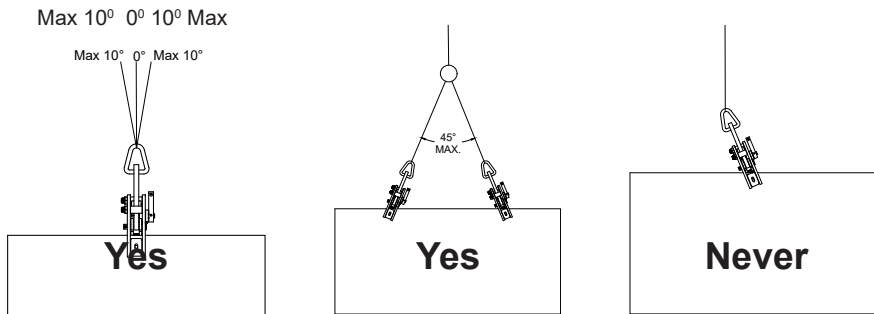

Figure 4: Never lift material from the side with a “VL” series clamp unless using a clamp with the Universal Lifting Shackle.
5. Do not lift material from the side with a VL series clamp (Fig. 4) unless using a clamp with the Universal Lifting Shackle.